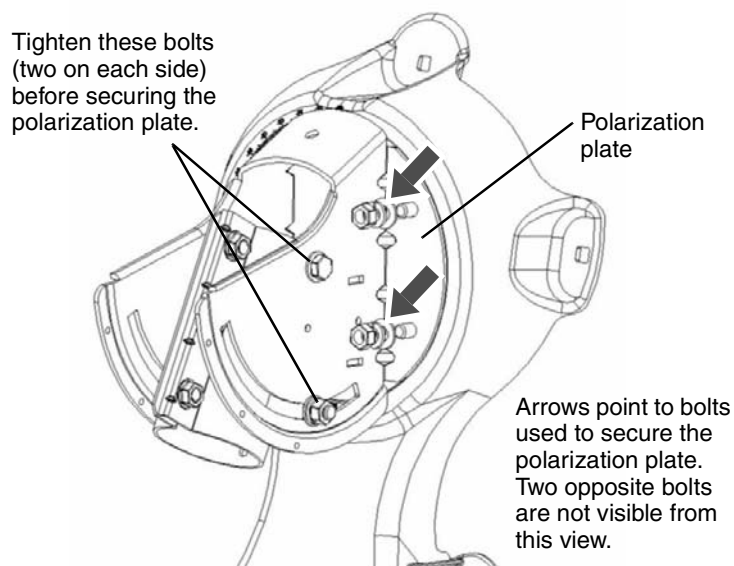

Figure 9: Securing the polarization plate
3. Before installing the polarization plate, tighten the four bolts that secure the elevation bracket to the canister. See Figure 9. If you don't tighten these bolts, you may have difficulty placing the polarization plate into the reflector bracket (step 4).
5. Secure the polarization plate using a 5/16-in. flat washer, 5/16-in. lock washer and 5/16-in nut on each carriage bolt, as shown in Figure 9.